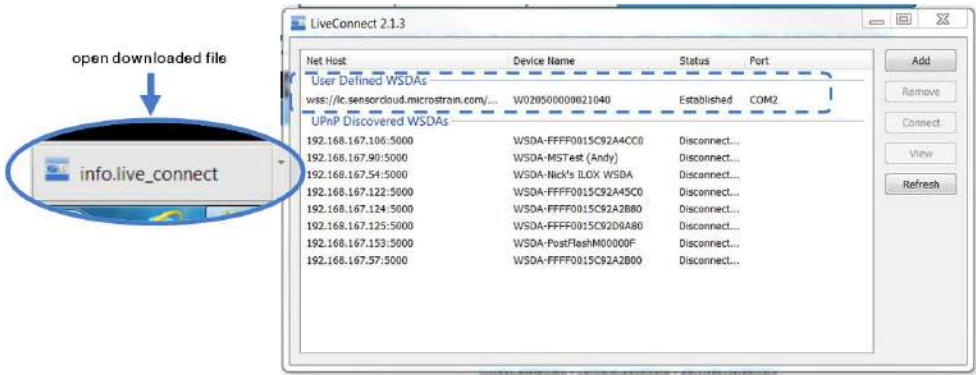

Figure 28 - Remote Live Connect Connection
2. When the button is selected a file download (info.live_connect) will begin. Open the file when the download is complete, and Live Connect will open automatically. The device will appear in the Live Connect window under User Defined WSDA's (*Figure 28 - Remote Live Connect Connection*).